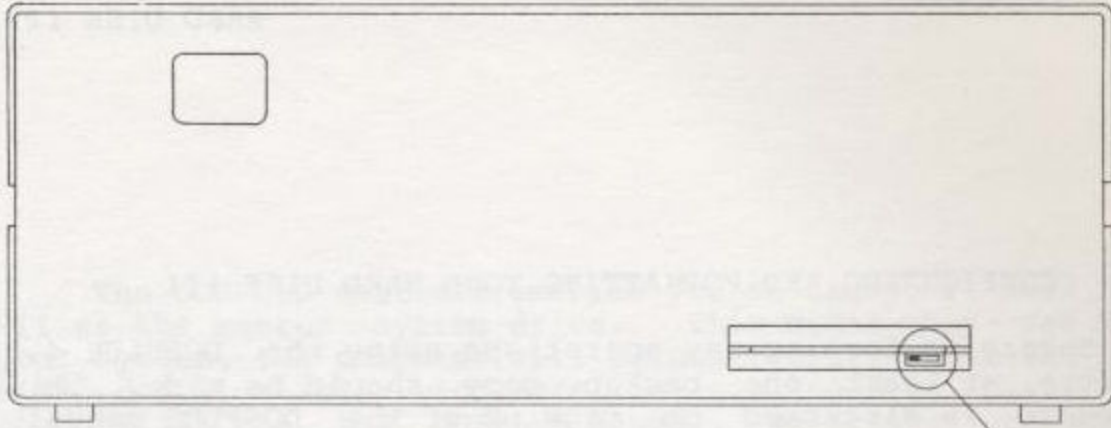

FIGURE 2.
- a. Using a small screw driver or a ball point pen, carefully set the sector size switch located on the underside of the host adapter board to the 256 bytes per sector position. (see Figure 2.)